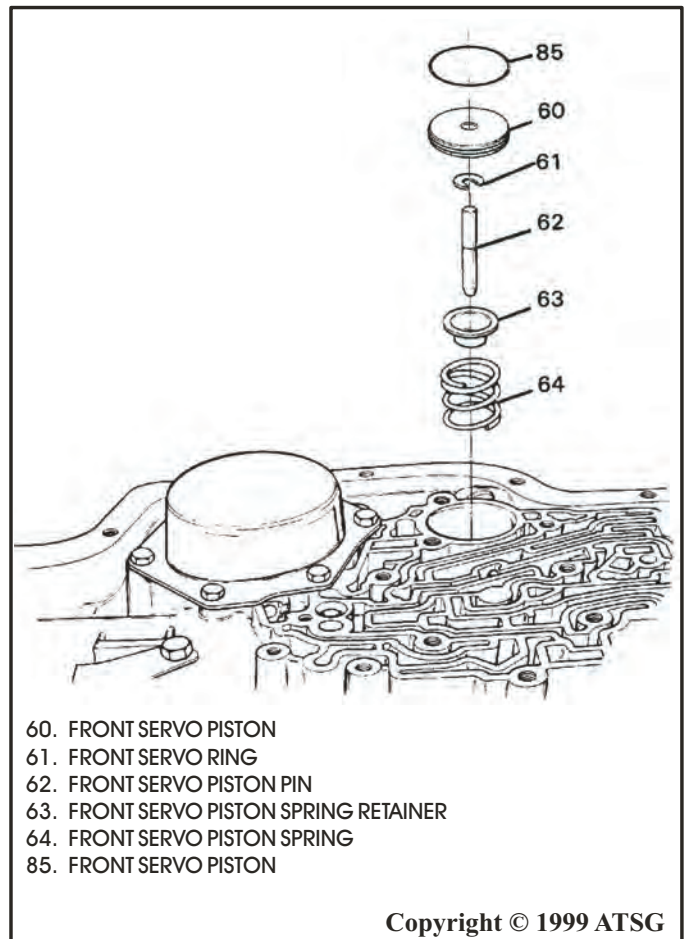

Figure 122
46. Install the manual 2 servo components into the case bore as shown in Figure 122.
47. Ensure that proper manual 2 servo components are installed into case bore (See Figure 122).